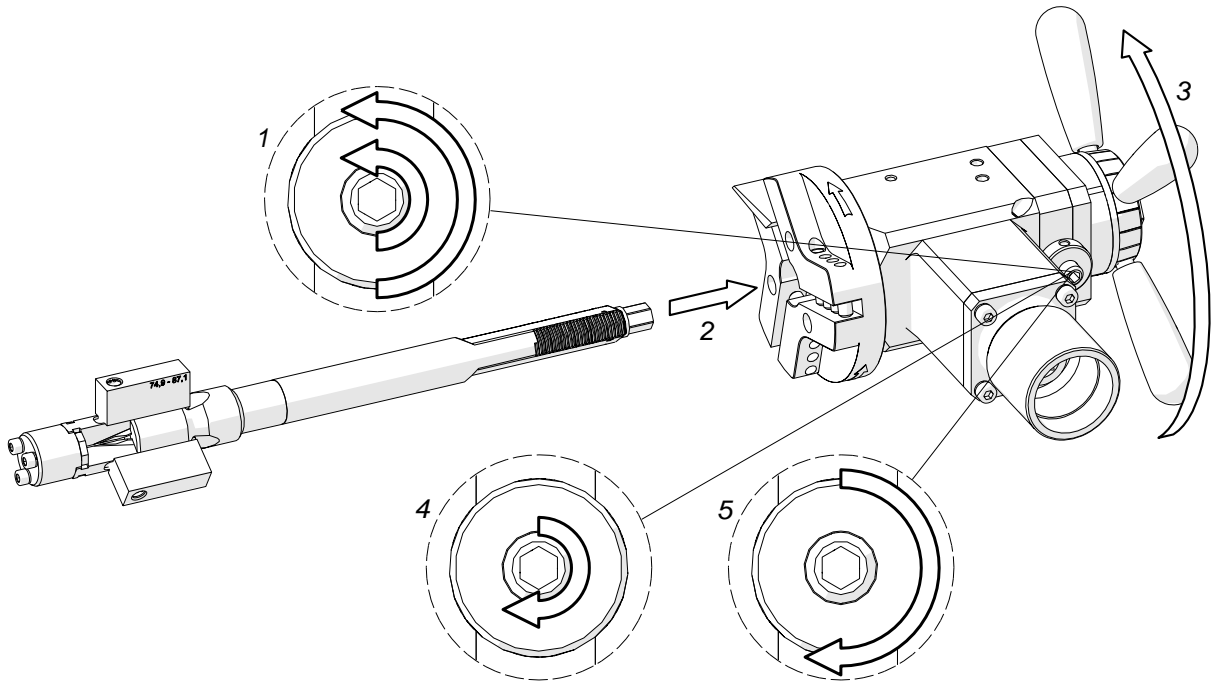

Fig. 3. Installing the mandrel into the machine
Loosen the nut and use the 6 mm hex wrench to loosen the set screw (1, Fig. 3), and insert the mandrel into the machine (2). Make sure that tool bits installed are not in contact with the mandrel. Next, rotate the spoke handles to the right (3) by at least 10 turns until the mandrel engages with the machine completely. Then, tighten the set screw (4) and check whether the spoke handles can be rotated in both directions easily. If the screw is too tight, readjust it. Finally, tighten the lock nut (5).
To remove the mandrel, loosen the nut and use the 6 mm hex wrench to loosen the set screw (1, Fig. 3) by at least one turn. Then, rotate the spoke handles to the left to disengage the mandrel from the machine.